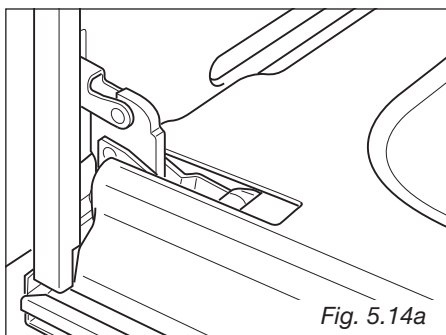

Fig. 5.14a
- Open the door to the full extent (fig. 5.14a).